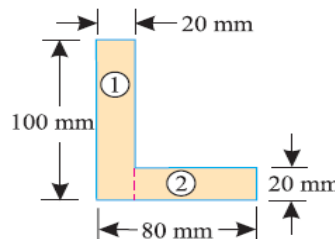

Fig.4.
- 8 Find the moment of inertia about the centroidal X-X and Y-Y axes of the angle section shown in Fig.4. **12M**